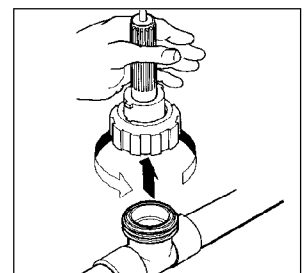

FIGURE 20
1. Close isolation valves and relieve pressure on the system by opening the sample valve. Remove sensor from flow assembly by unscrewing coupling ring. Pull sensor straight up with no side motion to prevent breakage (see fig. 20.) Inspect sensor, if deposits or fouling is present, clean sensor per instructions in Section 10, Maintenance, pg. 48.
1. Close isolation valves and relieve pressure on the system by opening the sample valve. Remove sensor from flow assembly by unscrewing coupling ring. Pull sensor straight up with no side motion to prevent breakage (see fig. 20) Inspect sensor, if deposits or fouling is present, clean sensor per instructions in Section 10, Maintenance, pg. 48.